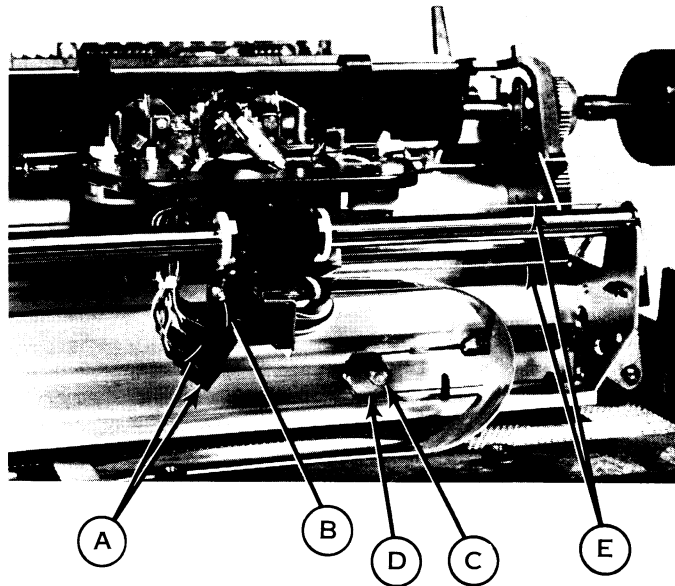

Figure 4-16. CARRIAGE ELECTRICAL CABLE ASSEMBLY & SNUBBER
- 4) Disconnect the two cable connectors mounted at the lower front of the carriage (Item A, Fig. 4-16).
- 5) Loosen the screw (Item B, Fig. 4-16) that holds the carriage cable mounting bracket, and release the bracket from the carriage.
Refer to Figure 4-16.